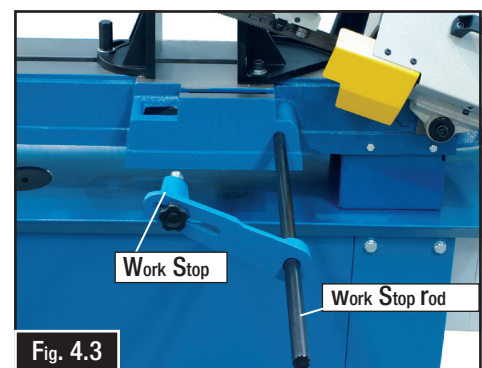

Fig. 4.3
1. Thread work stop rod onto base (see Fig. 4.3).
2. Slide work stop onto the rod, position it as necessary, then tighten set screw. (Fig. 4.3)